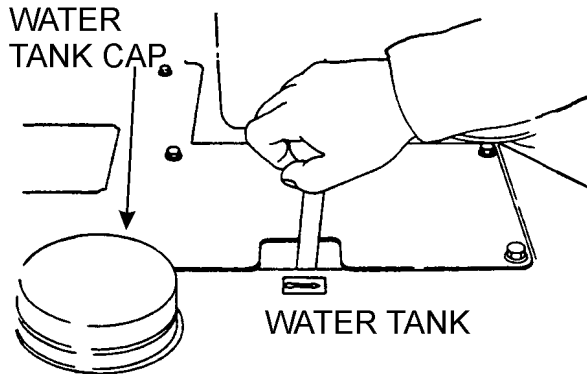

Figure 14. Water Tank Check
1. Check the water tank to see if filled. Add water if necessary. The water tank has a capacity of approximately 6 gallons (23 liters) (Figure 14).